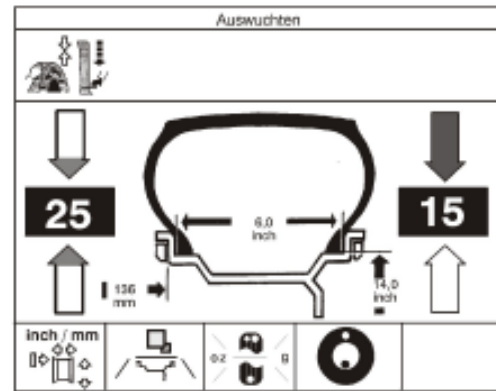

Fig. 47
- If necessary, index the wheel precisely into the correction position for the left plane. When the correction position is reached, only the two arrow heads (**Fig. 47**) light up green.